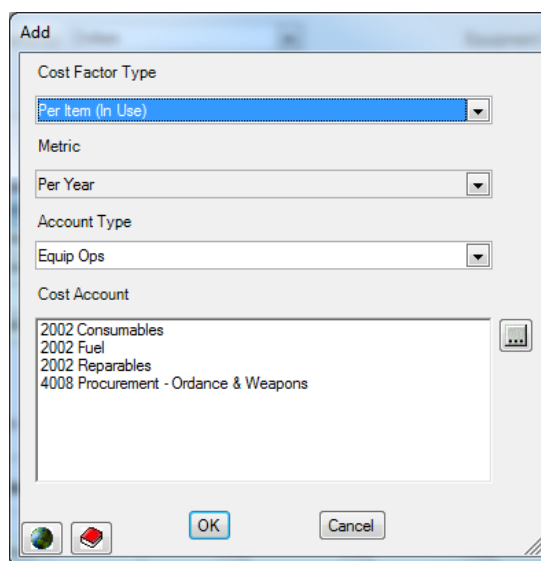

Figure 5-77. Add Window (Equipment Operations)
- Right-click and choose **Add** from the shortcut menu. The window shown in Figure 5-77 will open.